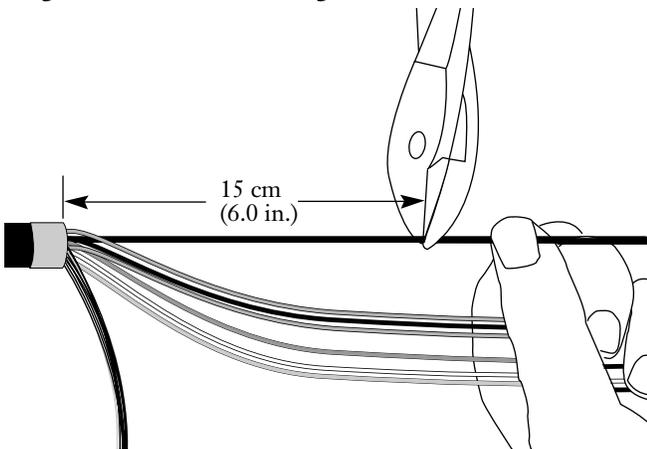

Figure 28
- 7.11** Use side cutters to cut the central member to a length of 15 cm (6.0 in.) (Figure 28).